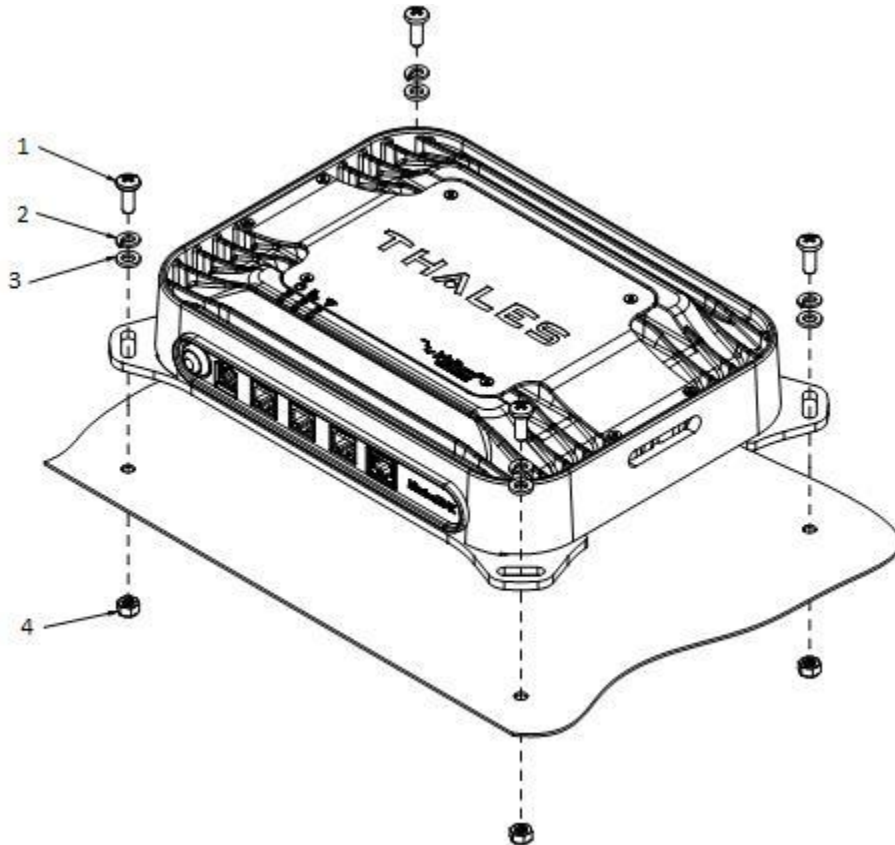

Figure 2-11 Below Deck Unit (BDU) Mounting Detail
The VesseLINK™ Below Deck Unit is designed for ease of installation with four corner mounting locations for direct mounting. Figure 2-11 and Table 2-3 show the Thales BDU mounting kit with part number 1100789-501.
3. Assemble screws with split lock and flat washers as shown in Figure 2-11 and torque to 4.5 Ft. Lbs. (6 Nm).